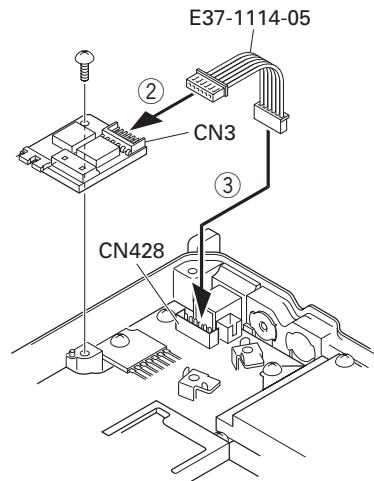

Fig. 3-2
5. Place the relay unit at the position shown in Figure 3-2 and secure it to the chassis with a screw.
6. Remove the cap on the rear of the chassis by pushing it from the inside with your finger. (④)
7. Pass the 6-pin connector of the cable (E37-1113-05) through the chassis hole (⑤) and insert the bush into the chassis hole.
8. Rotate the bush of the cable 90 degrees counterclockwise as viewed from the rear of the chassis. (⑥)
9. Insert the 6-pin connector of the cable into the connector (CN2) of the KAP-2 relay unit. (⑦)